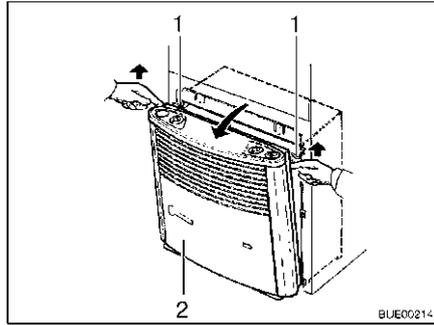

Fig. 124 Removing heater cover
- Remove heater cover (Fig. 124,2). Pull the heater cover upwards and forwards, press up the retaining springs (Fig. 124,1) to the side and tip the cover forwards.